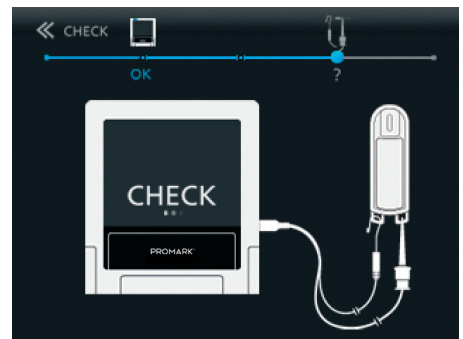

Fig. 33 Connect file clip and lip clip to tester
- Connect file clip and lip clip (or a second file clip) to the contact strips on the tester as shown on the screen (Fig. 33).